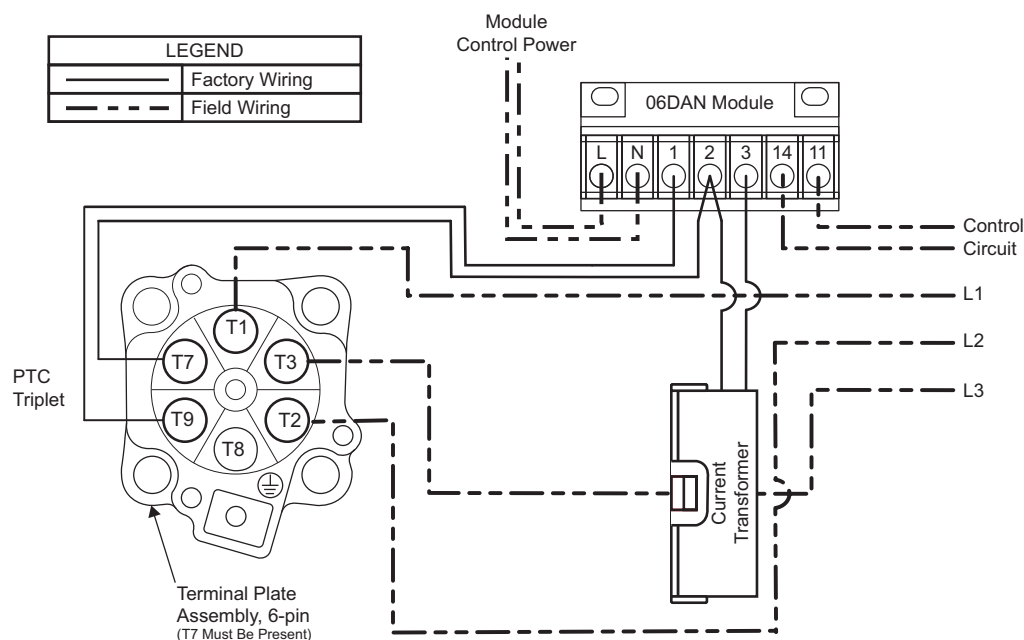

Fig. 7 — Hybrid Overload Wiring
1. Connect 1 of the 2 control circuit leads to connection 14, located on top of the module. Connect the other control circuit lead to connection 11, located on top of the module. Use a fork terminal or stripped and tinned wire to prevent fraying. See Fig. 7. Torque module connections to 12 lb-in. (1.35 Nm) maximum.
3. Route one power lead (L3) through the current transformer (CT), as shown in Fig. 7 and 8.
4. Once power lead (L3) is routed through the CT, make terminal plate connections as shown in Fig. 7. Refer to Terminal Plate Wiring on page 6 for connection details.